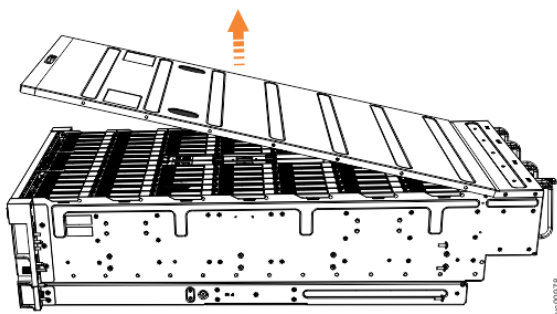

Figure 120. Removing the 5U expansion enclosure cover
4. Carefully lift the cover up, as shown in Figure 120 on page 177.